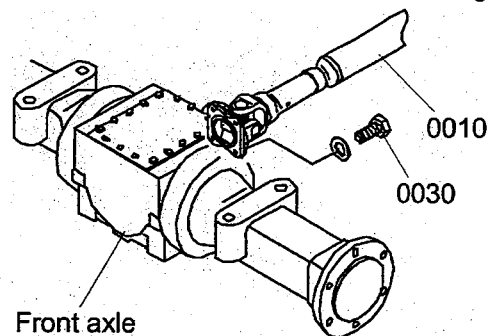

Fig34-00:
5. Fig34-00: Connect the propeller shaft assembly (0010) to the front axle by tightening the bolts (0030).